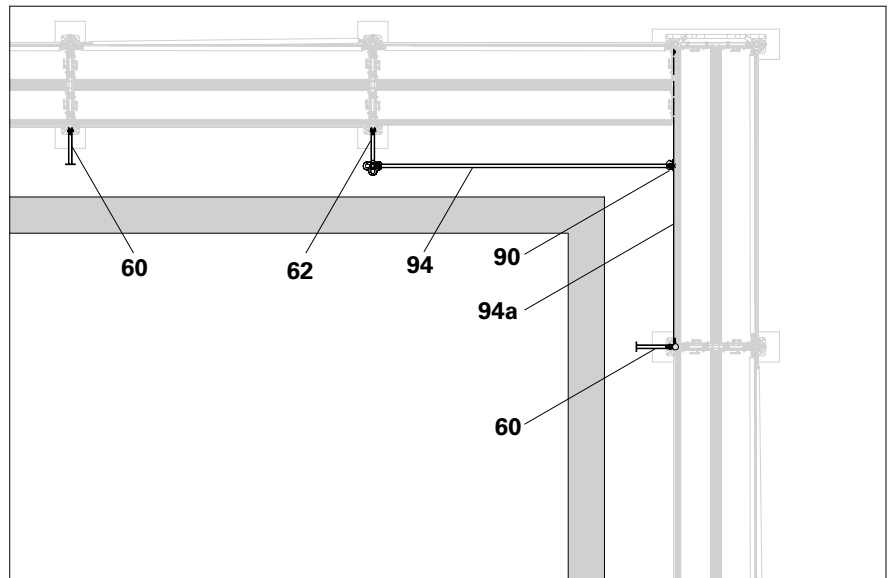

Fig. D1.16
1. Attach Supports UCS 33 (**60**) and Console Bracket ECM 33 (**62**) from the lower scaffold level to the rosette. Secure the wedges! Arrangement in accordance with Fig. D1.16.
3. Fit Horizontal Ledger UH-2 (**94**) onto the Ledger-to-Ledger Coupler UHA-2 (**90**) and Console Bracket ECM 33 (**62**) in the adjacent scaffold bay. Secure the wedges. (Fig. D1.16)